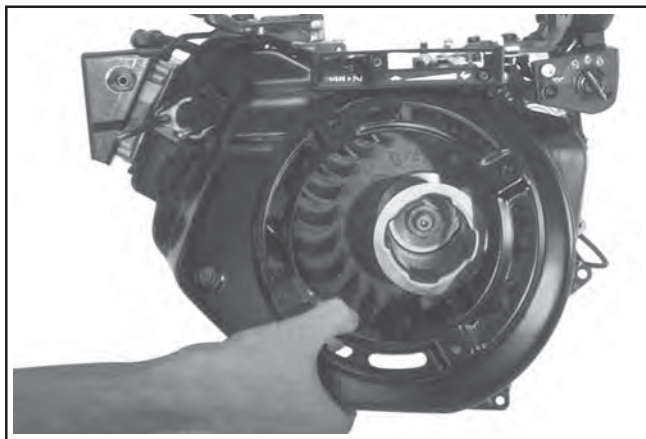

Figure 11-96. Installing Blower Housing.
1. Install the blower housing behind the throttle link and dampening spring. Start all the hex flange screws. On CS4 and CS6 engines, secure the ground lead with the silver screw in the upper right hand location. See Figures 11-96, 11-97, and 11-98. Torque the screws to 7 N·m (62 in. lb.).